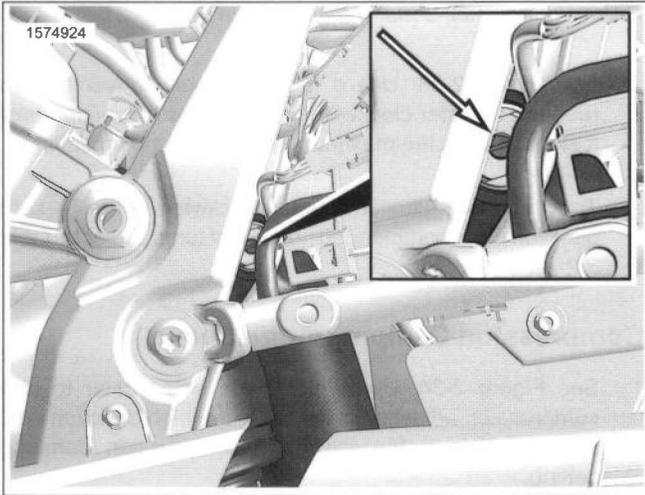

Figure 2-34. Compression Adjuster
1. See Figure 2-34. Use a flat blade screwdriver to turn compression adjuster clockwise in the high direction until it stops. This is the maximum compression damping setting.